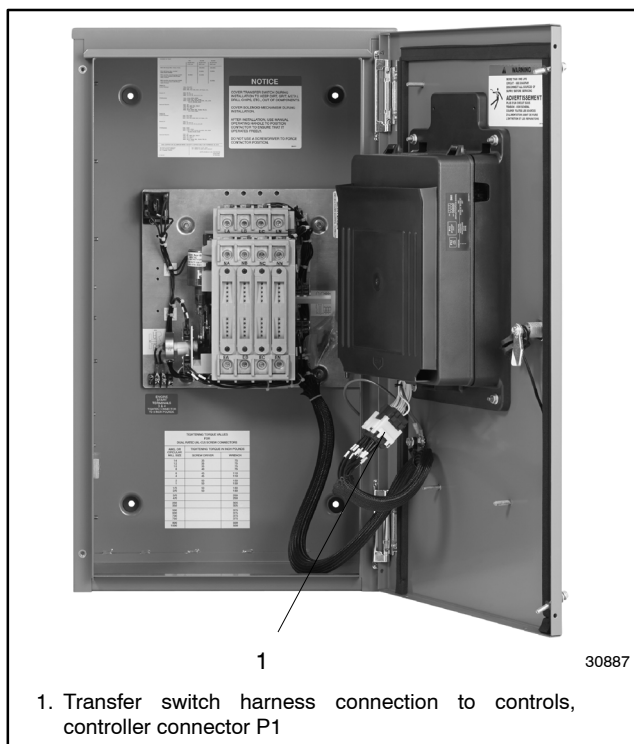

Figure 6-9 Transfer Switch Harness Connection to Control Board, Typical
- Verify that the transfer switch wiring harness is connected to the controller. See Figure 6-9.
2. Disconnect the transfer switch wiring harness from the controller at the 24-pin connector. See Figure 6-9.